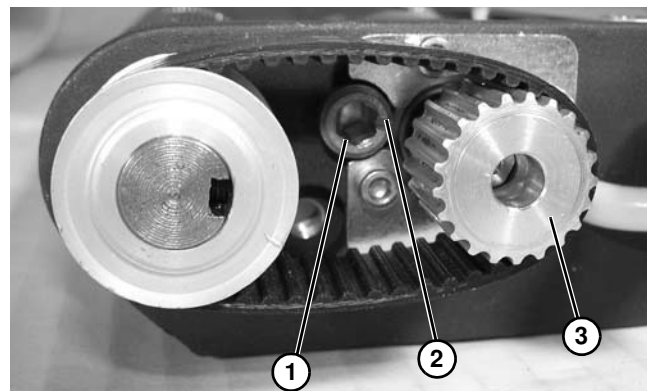
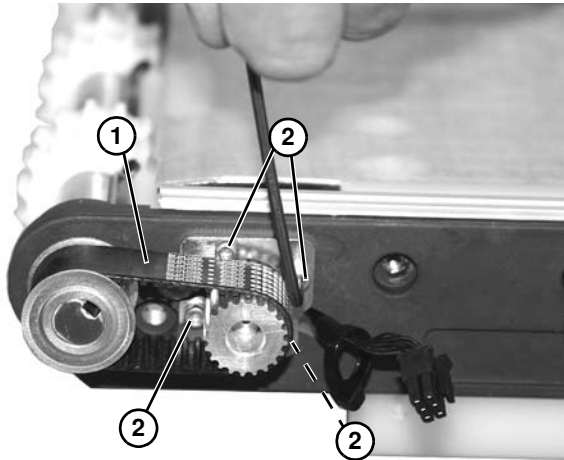

Figure 77
Figure 78
5. Tighten timing belt tension cam (**Figure 77, item 1**), making certain that pointer (**Figure 77, item 2**) on cam is pointing towards the motor drive spindle (**Figure 77, item 3**).
6. Rotate tension cam (Figure 77, item 1) to obtain 1/8 - 1/4" belt deflection at center of belt (Figure 78, item 1) with approximately 3-5 in-lb of pressure. Tighten four clamp plate screws (Figure 78, item 2) to 15 in-lb (1.6 Nm) to secure position.